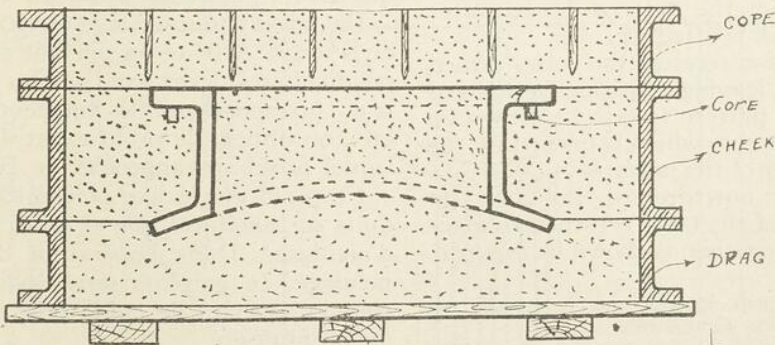

Fig. 6 Section of Mould.
In molding the pattern, the straight flange (A) is placed on a board and the cheek placed over it. This is followed by the operation of ramming up the inner and outer diameter until the joint of the pattern is reached. The balance of the pattern or irregular flange is now put in place and the ramming of the cheek completed with a parting made around the outer edge of the flange as shown in *Figure 6*. The drag is now put in place and rammed up in the usual manner.
The mold is now dressed, the cores set and the parts of the mold returned to place and clamped together as shown in *Figure 6*.